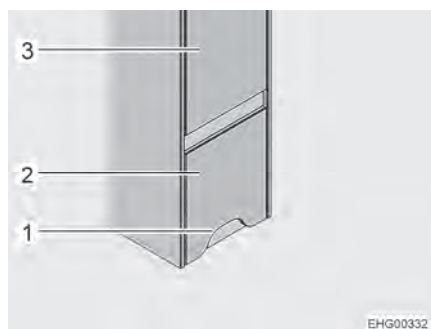
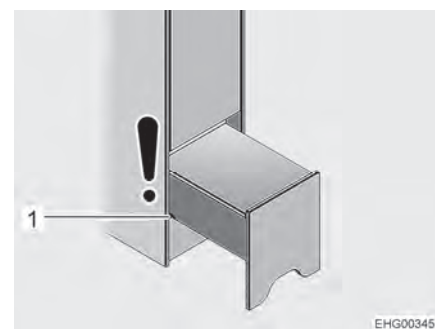

Fig. 77 Access assistance (closed)
Fig. 78 Access assistance (night position)
The access assistance has been installed on the right side of vehicle, underneath the wardrobe (Fig. 77,3) in front of the rear bed.
- ▷ The toilet compartment door is opposite to the access assistance. As long as the access assistance has only been pulled out partially ("night position", see Fig. 78), it is still possible to open the toilet door. If the access assistance has been entirely pulled out to obtain access to the storage compartment, it is no longer possible to fully open the toilet compartment door.
- Grab the access assistance (Fig. 77,2) by the cut-out (Fig. 77,1), lift it slightly and pull it out up to the first groove (Fig. 78,1) (night position).